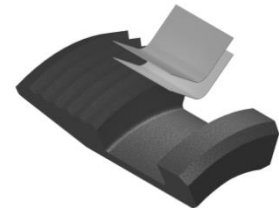

Fig. 4
**NOTE7:** Uses two (2ea) springs per slip (Fig. 4).